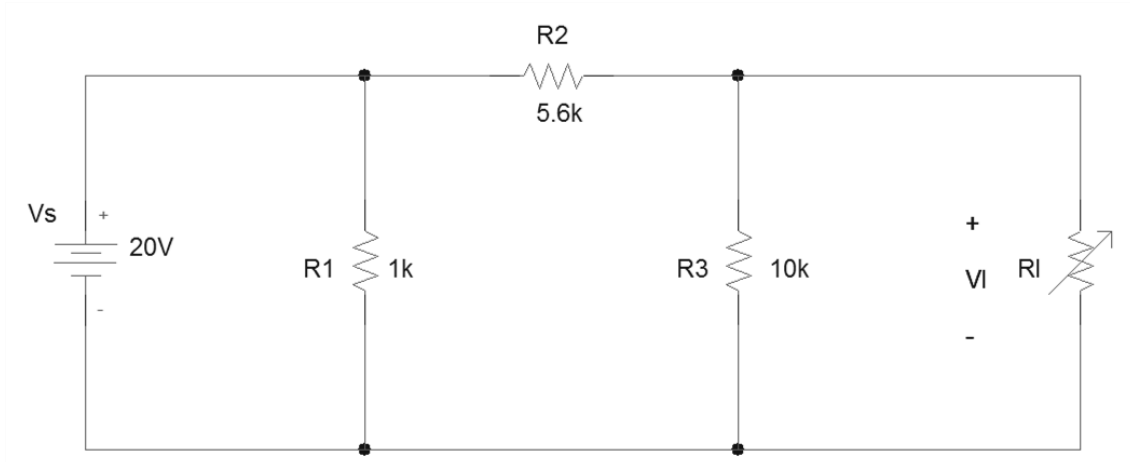

Fig. 5: Circuit for verifying maximum power transfer theorem
* D:\BracU\2. Second Semester (SU-24)\EEE101-101L\EEE101L\Pspice simulations\Exp 5\Part-B\Fig 5\EXP5 B-5...
- Set up the circuit as shown in Fig. 5.